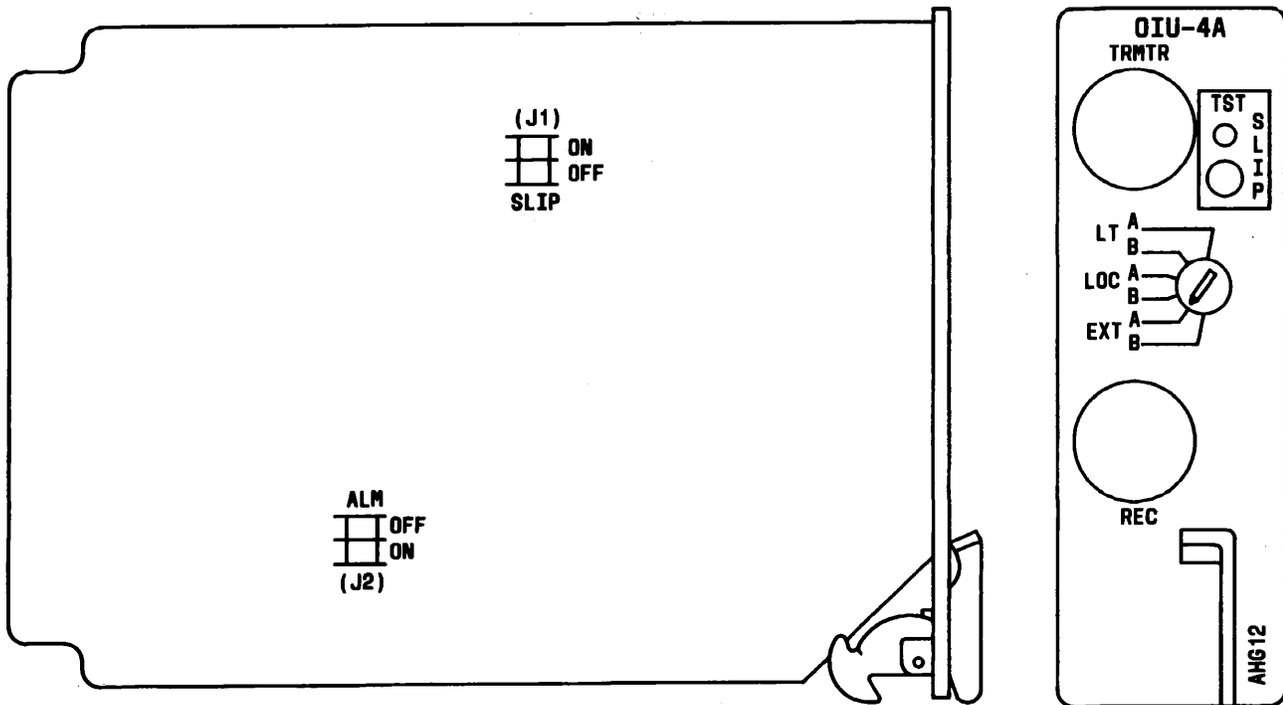

Fig. 1—D4 OIU-4A Office Interface Unit
The OIU-4A office interface unit (Fig. 1) circuit pack provides a D4 or DCT channel bank with the following synchronization mode capabilities: local time (LOC), loop time (LT), or external time (EXT). It supports Digital Data System (DDS) and stand-alone (local network) dataport transmission. It also provides a slip detection capability in the external timing mode with both faceplate lamp and office alarm reporting on an optional basis.